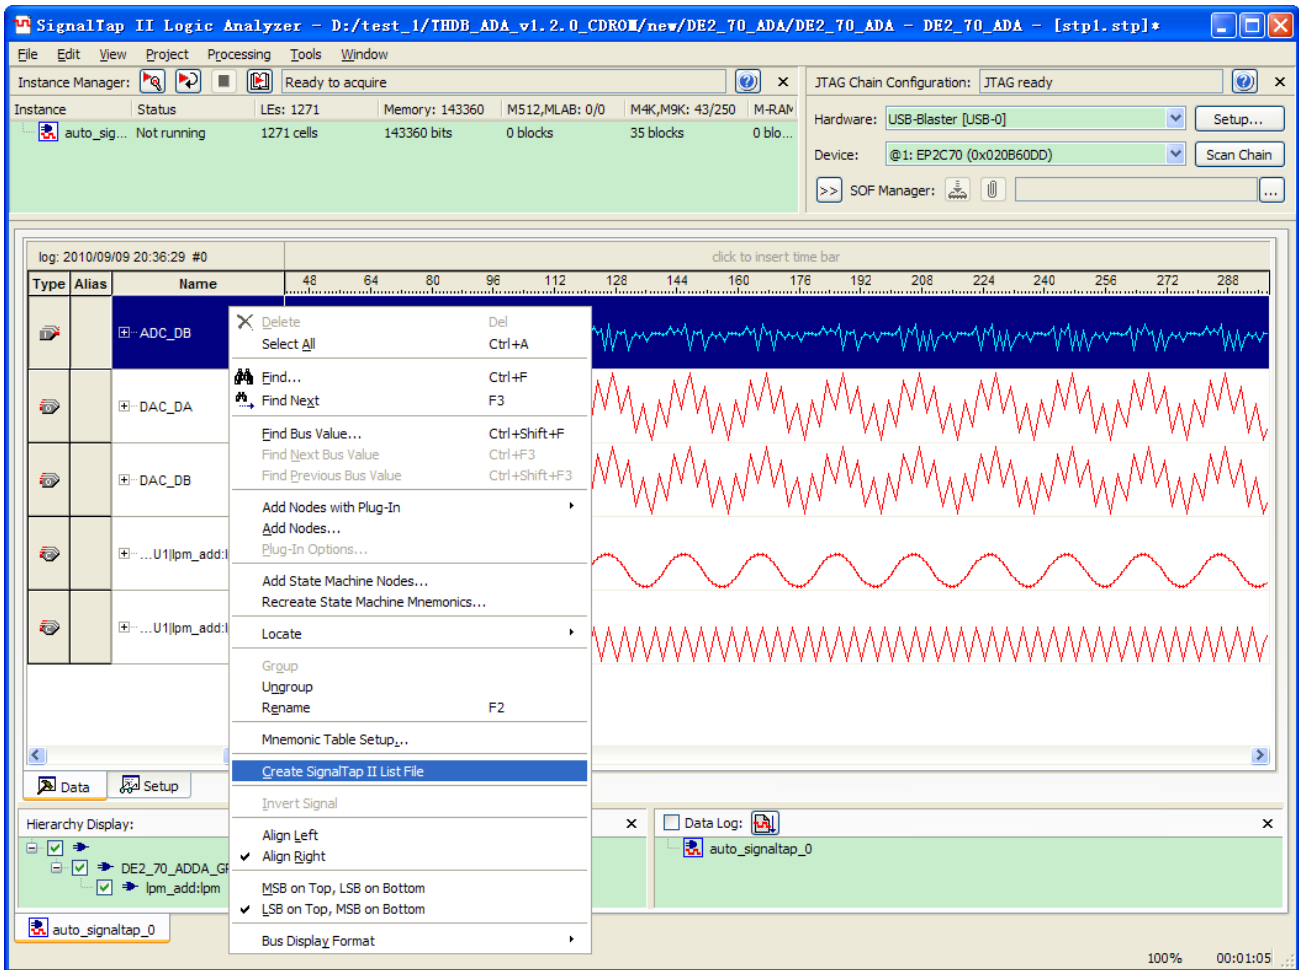

Figure 4-5 Using Quartus 10.0 sp1 SignalTap II to generate the SignalTap II List File
3. Choose File -> Create/Update -> Create SignalTap II List File and the Quartus II will generate the file stp1_auto_signaltap_0.txt in the project directory. **If your Quartus II version is above 9.1, Please click ADC_DB and right click to select "Create SignalTap II List File" for outputting the List file.** As show on the **Figure 4-5**.